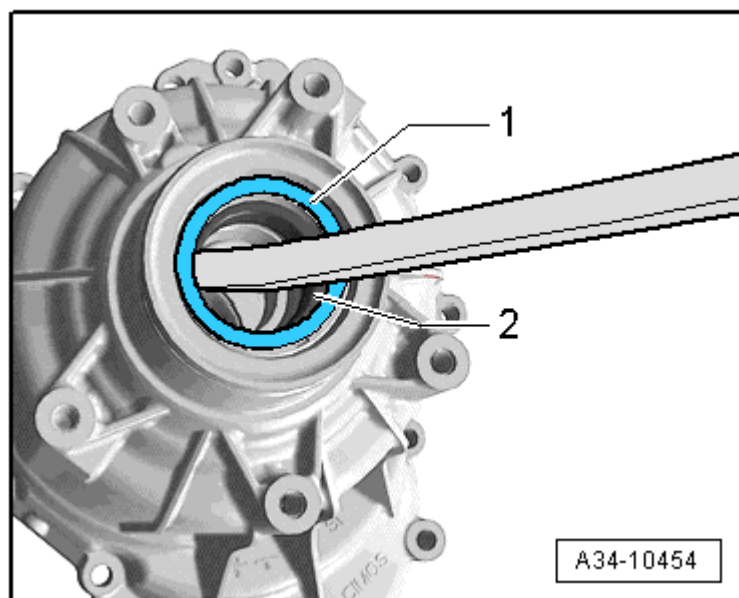

Fig. 49: Prying Out Shaft Seal -1-
- Pry it out, refer to **Fig. 49**